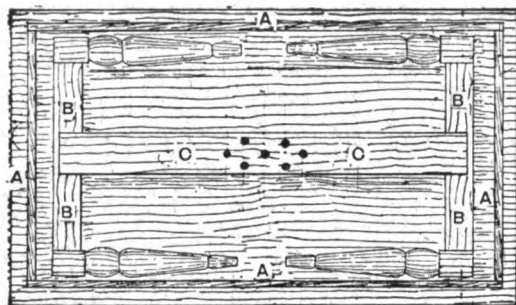

FIG. 1
**Simple Folding Table.**—Fig. 1 is an underneath plan of the folding table. A narrow frame A, about 2 in. deep, is fixed by means of screws or wood buttons to the underside of the top. The legs are connected to end pieces B, and fold inwards. The connecting pieces B